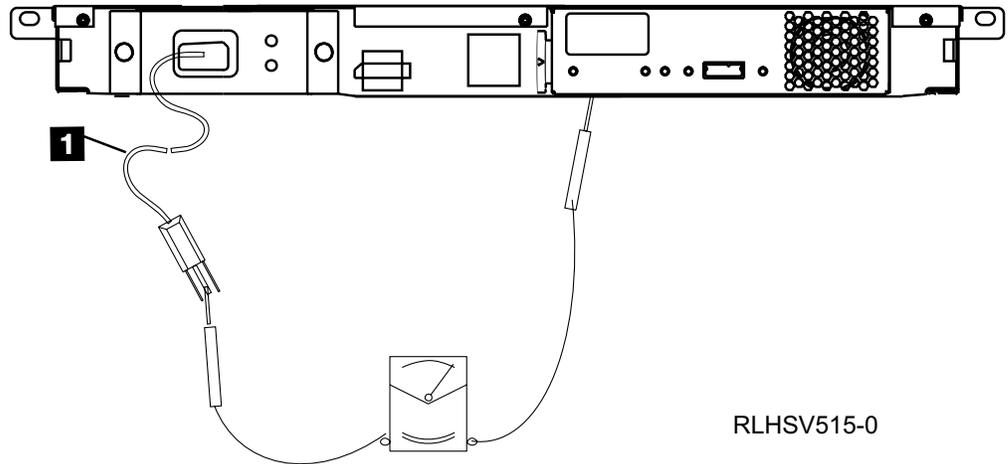

Figure 21. Rear View of the 7214 Storage Enclosure
13. With the external power cable (**1** in Figure 21 on page 49) connected to the 7214 Storage Enclosure, check to ensure 1.0 ohm or less resistance between the ground lug on the external power cable plug and the metal frame.